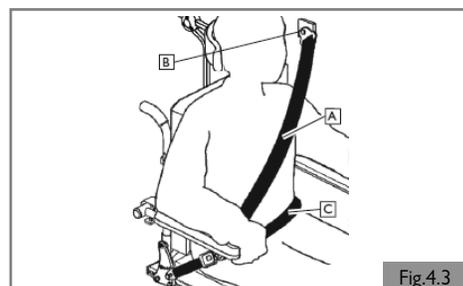

Fig.4.3
17. Both pelvic and upper torso restraint belts must be used to restrain the occupant to reduce the possibility of head and chest impacts with the vehicle components and serious risk of injury to the user and other vehicle occupants (Fig. 4.3).
18. The upper torso restraint belt should be mounted to the vehicle (B) pillar. Failure to do so will increase the risk of serious abdominal injuries to the user (Fig. 4.3).
20. The pelvic restraint belt (C) must be worn low across the front of the pelvis so that the angle of the pelvic belt is within the preferred zone of 30 to 75 degrees to the horizontal (Fig. 4.3).
22. The upper torso restraint belt (A) must fit over the shoulder and across the chest (Fig. 4.3).